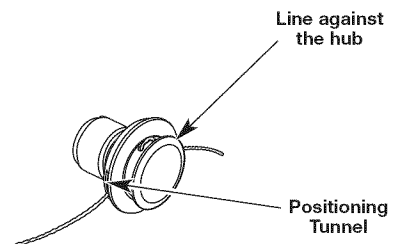

Fig. 25
5. Pull the line and make sure the line is against the hub and is fully extended through the positioning tunnels (Fig. 25).